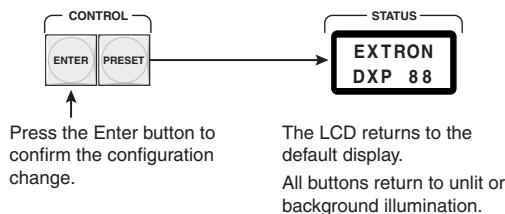

Figure 3-7 — Press Enter
3. Press and release the Enter button (figure 3-7). The input, output, and Enter buttons return to either unlit or to background illumination. The LCD returns to the default display. The current configuration is now defined as input 5 tied to output 3, output 4, and output 8.